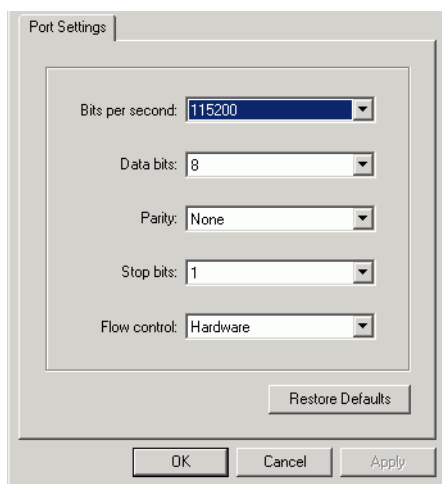

Figure 10: Port Settings dialog box
6. Ensure that the **Connect using** field displays **COM1** or **COM2** (depending on the serial communication port connection to the switch), and click **OK**. The Port Settings dialog box displays (Figure 10).